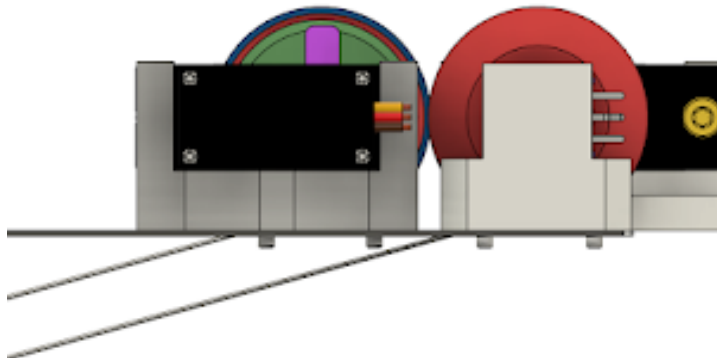

Figure 5.6: Servo on Right screwed into the String Guide Cover (to the left of Servo on Right). The screws should be barely out.
7. Partially screw M2x6 screws into the screw holes in the Individual Servo Mount and the String Guide Cover so the end of the screw is barely poking out (Figure 5.6).